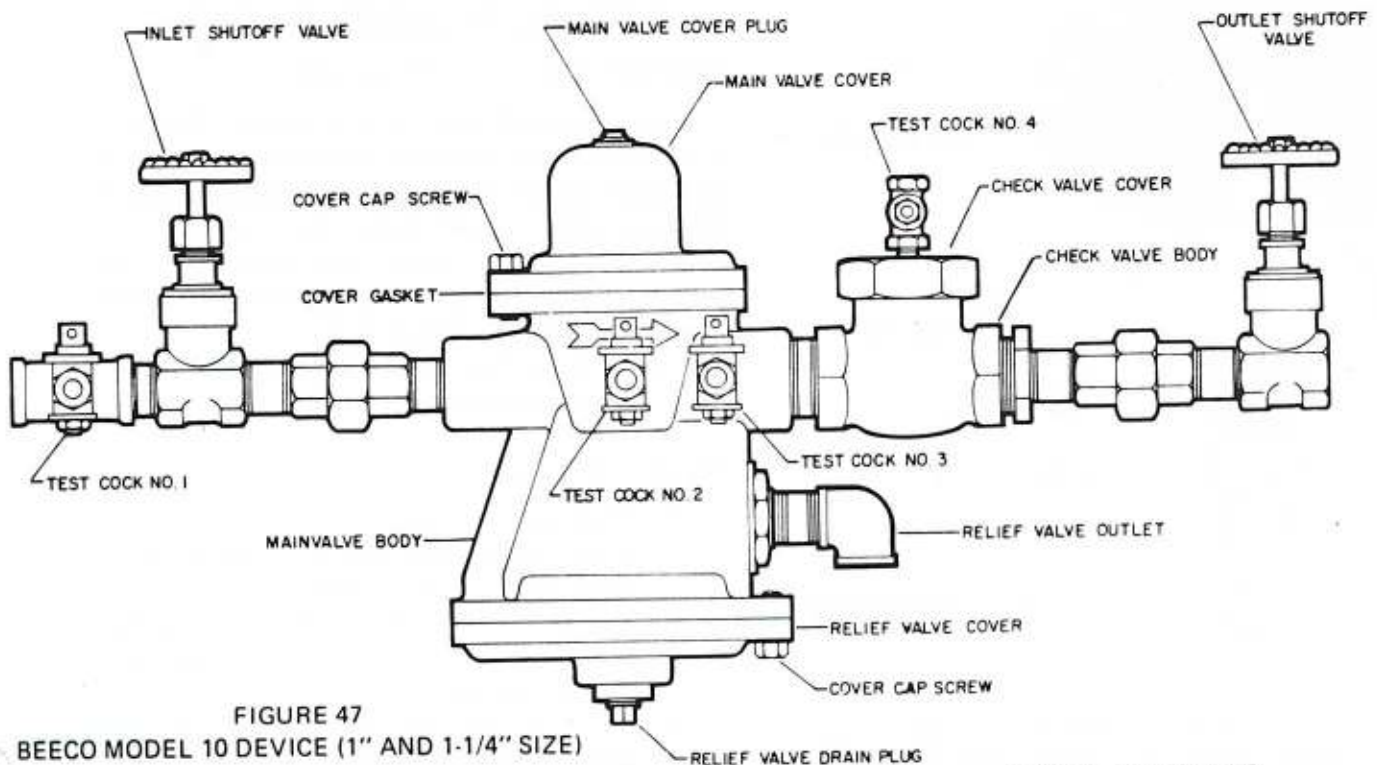

FIGURE 47
1. Disassembly (see Figs. 47, 48 and 49)